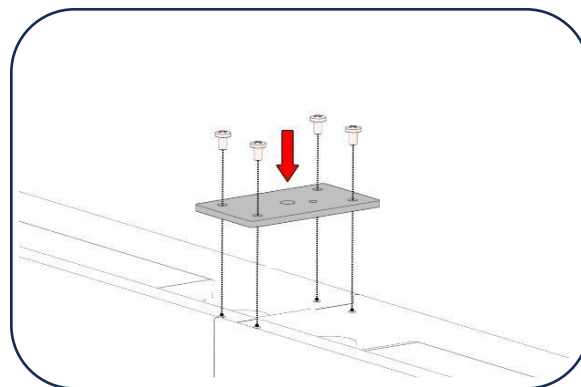

Figure 3
5. Install the **Small Joiner Bracket(s)** (or **Large Joiner Bracket** for **Control Boxes** installed in the middle of the run) between the fixture(s) using the provided thread-forming screws. [Figure 3]